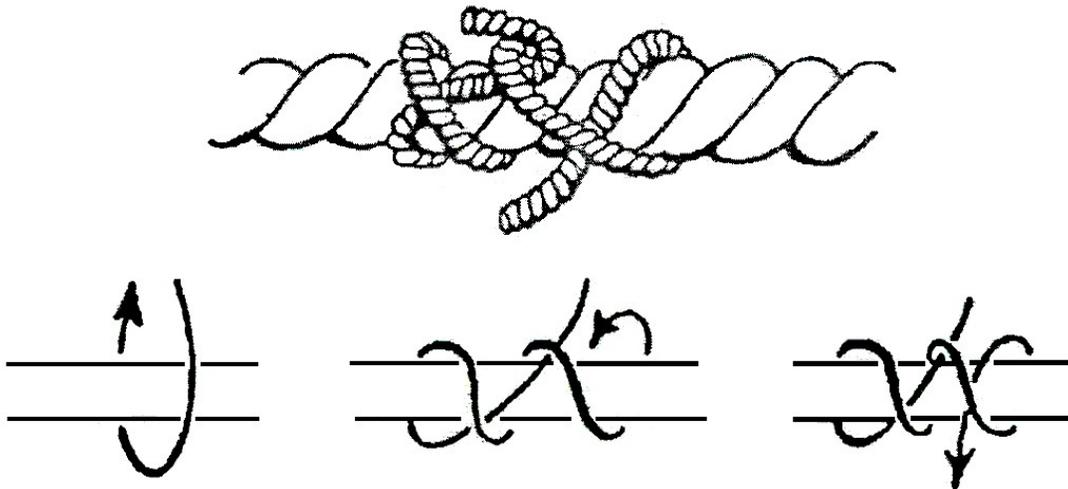

Figure 3-80
6. Tie a rolling hitch (see Figure 3-80).